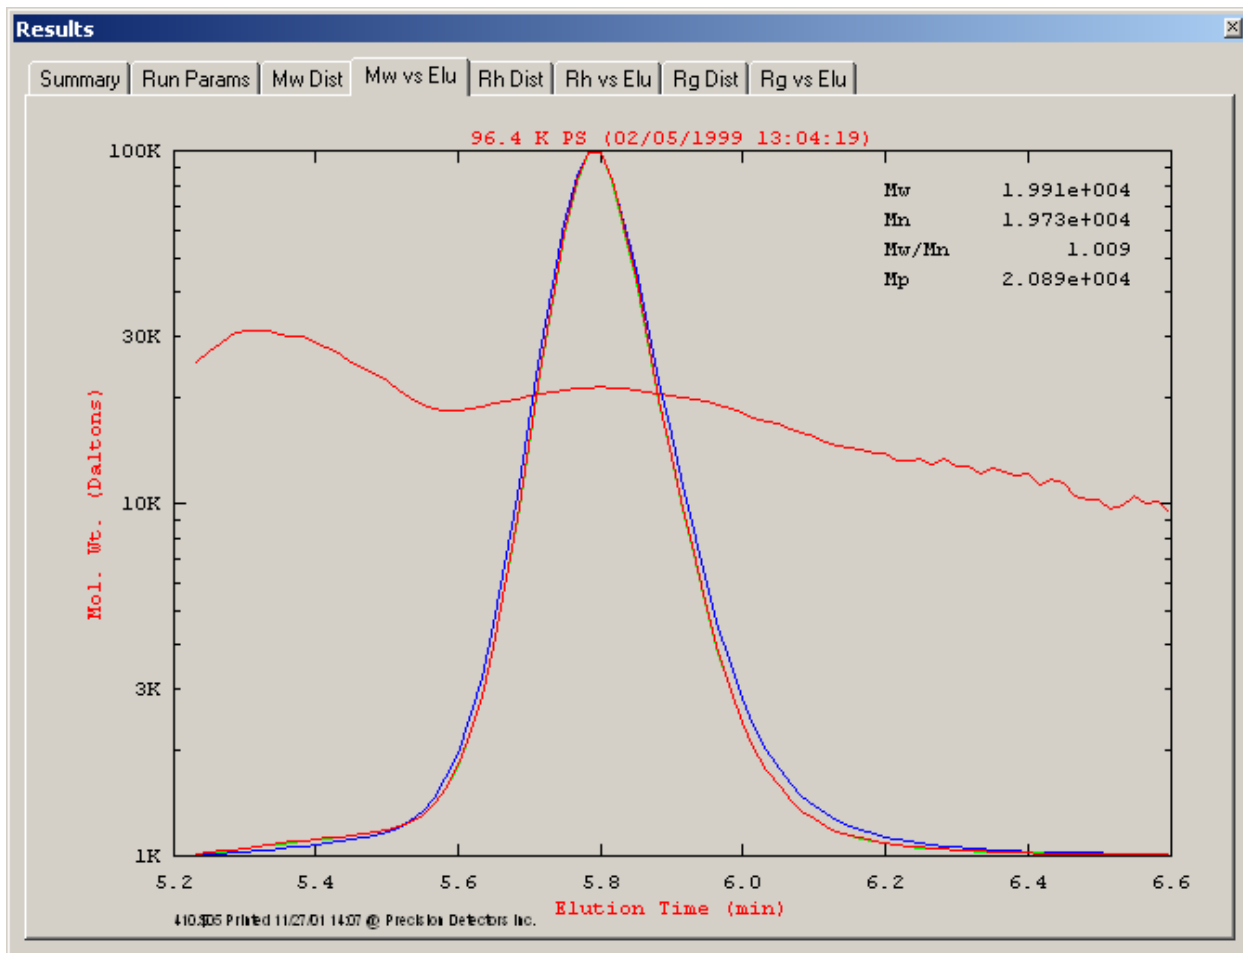

Figure 7-20: Mw Chromatogram
- e) Click the Mw vs. Elu tab to present a chromatogram that presents the Mw as the ordinate (Figure 7-20). Similar chromatograms for Rh and Rg can be viewed via the corresponding plots.